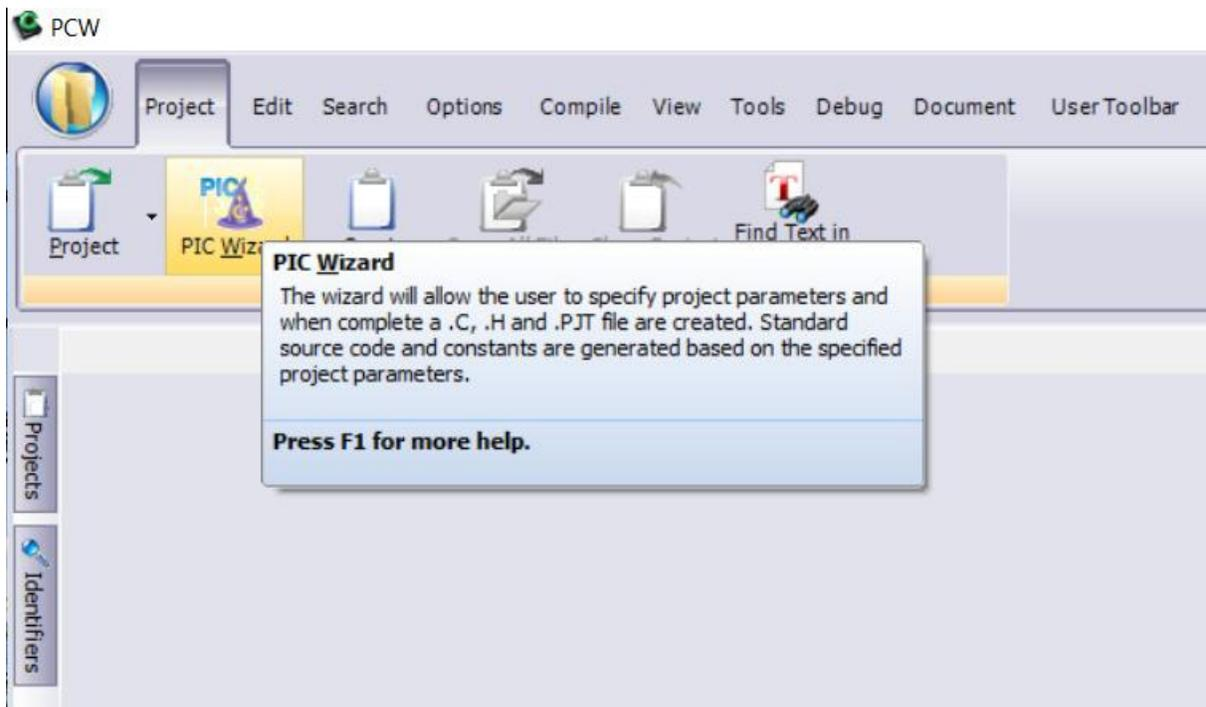

Figure-2
- 2) From the “**Project**” choose “**PIC Wizard**”. Click “**PIC Wizard**” in the **Figure-2** window.